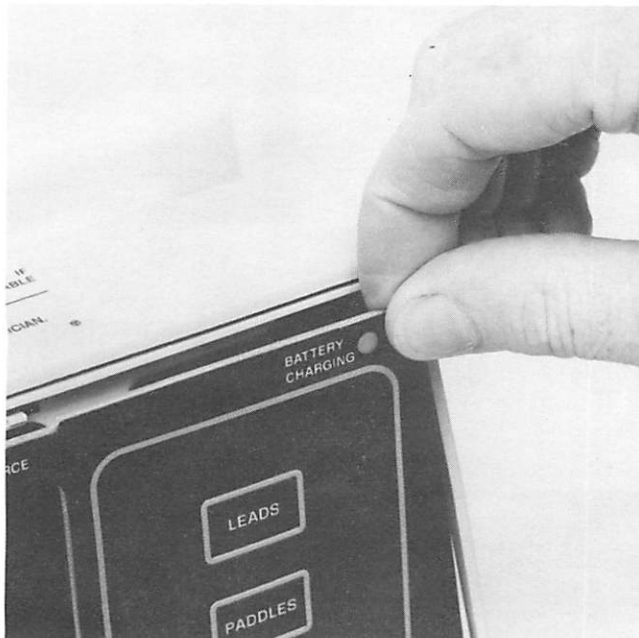

Figure 4-9.
3. If the unit is a 43110A or 43120A, simply lift the panel out. See Figure 4-9.